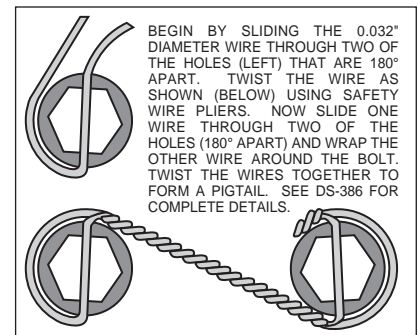

Figure 4. Safety Wire Diagram
- Attach rotor adapter (10) to rotor (11) using six bolts (12). Torque bolts (12) to 180 in-lb. Safety wire bolts (12) using standard 0.032 inch diameter stainless steel safety wire as shown in Figure 4. Please refer to Wilwood's data sheet DS-386 (available at [www.wilwood.com/pdf/ds386.pdf](http://www.wilwood.com/pdf/ds386.pdf)) for complete safety wire installation instructions. **NOTE:** The flat side of the rotor (11) lugs face toward the rotor adapter (10) with the dished side of the rotor adapter (10) facing away from the rotor (11).
- Mount the adapter/rotor assembly (10 and 11) to the hub (7) using six bolts (13). Torque bolts (13) to 22 ft-lb. Safety wire bolts (13).
- Pack the small outer bearing cone (14) with high temperature disc brake bearing grease. Lightly coat the spindle bearing surfaces with bearing grease. Slide the hub/rotor assembly (7 and 11) with outer bearing cone (14) onto the spindle. Secure using spindle washer (15), existing adjusting nut and nut locking device. **NOTE:** Because of a tolerance variation among spindles, it may be necessary to install a shim washer (16) between the spindle washer (15) and the spindle nut if the spindle nut will not tighten down all the way. There are four supplied in the kit for your convenience.